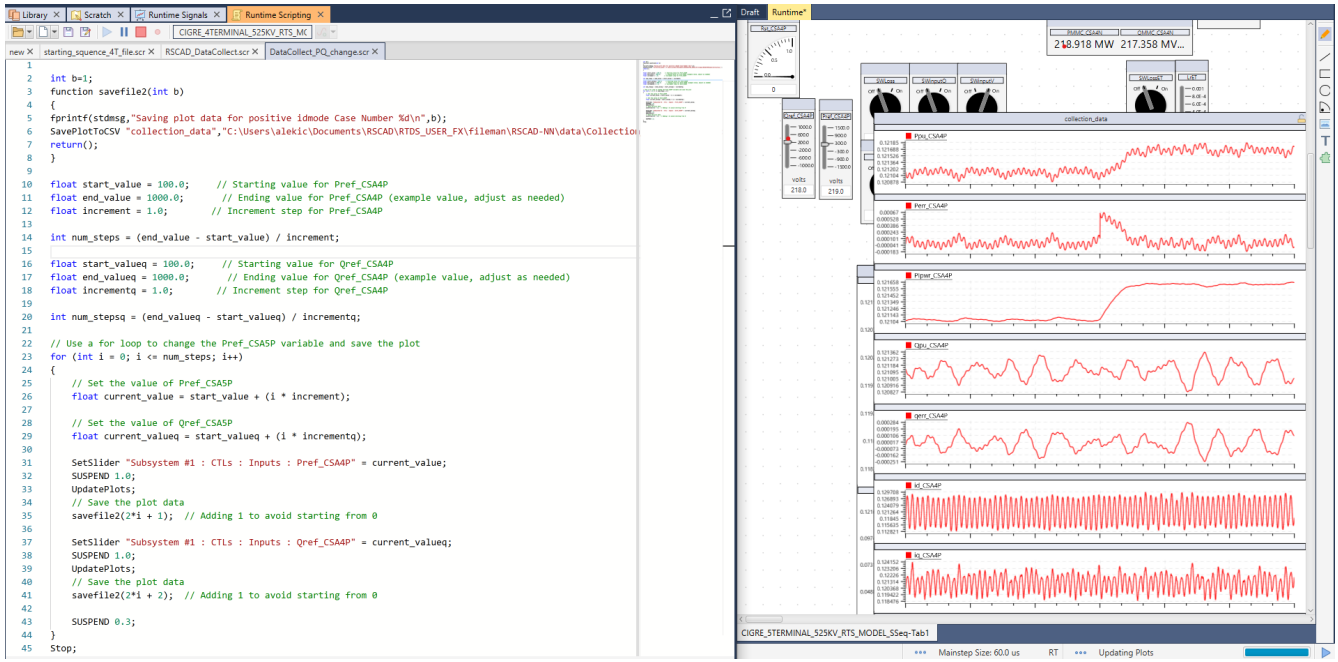

Figure 4.5: Running script.
2. The code to be run can be like in Fig. 4.5. The script generates a number of files in the desired directory. Please note that before calling this data collection script, it is necessary to initialize the system by first calling `starting_sequence_4T_file.scr`. Only then you can start with running the data collection as in Fig. 4.5.